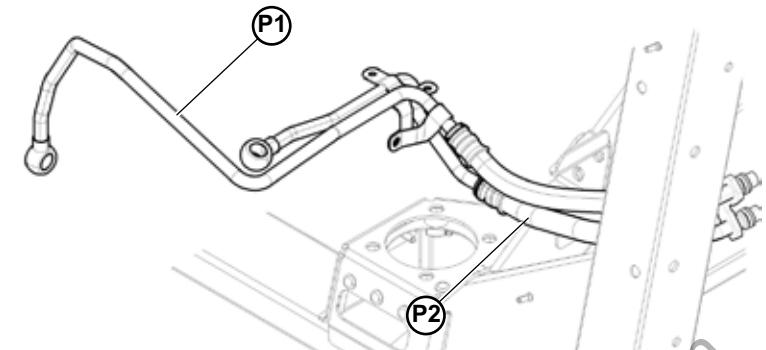

Fig.11
4. Remove and extract the rear P1 and P2 gearbox oil circuit pipes (Fig.11)